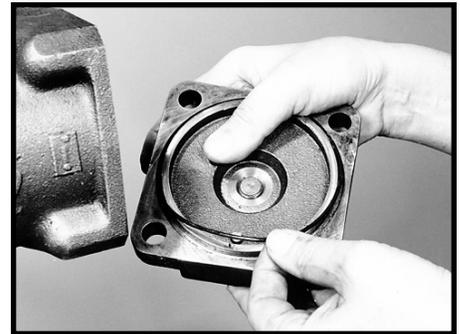

Figure 58
18. Remove and discard the end cover seal ring (9) from the end cover (37). SEE FIGURE 58.
19. Remove seal protector (62) from worm shaft/input shaft (16) and discard.